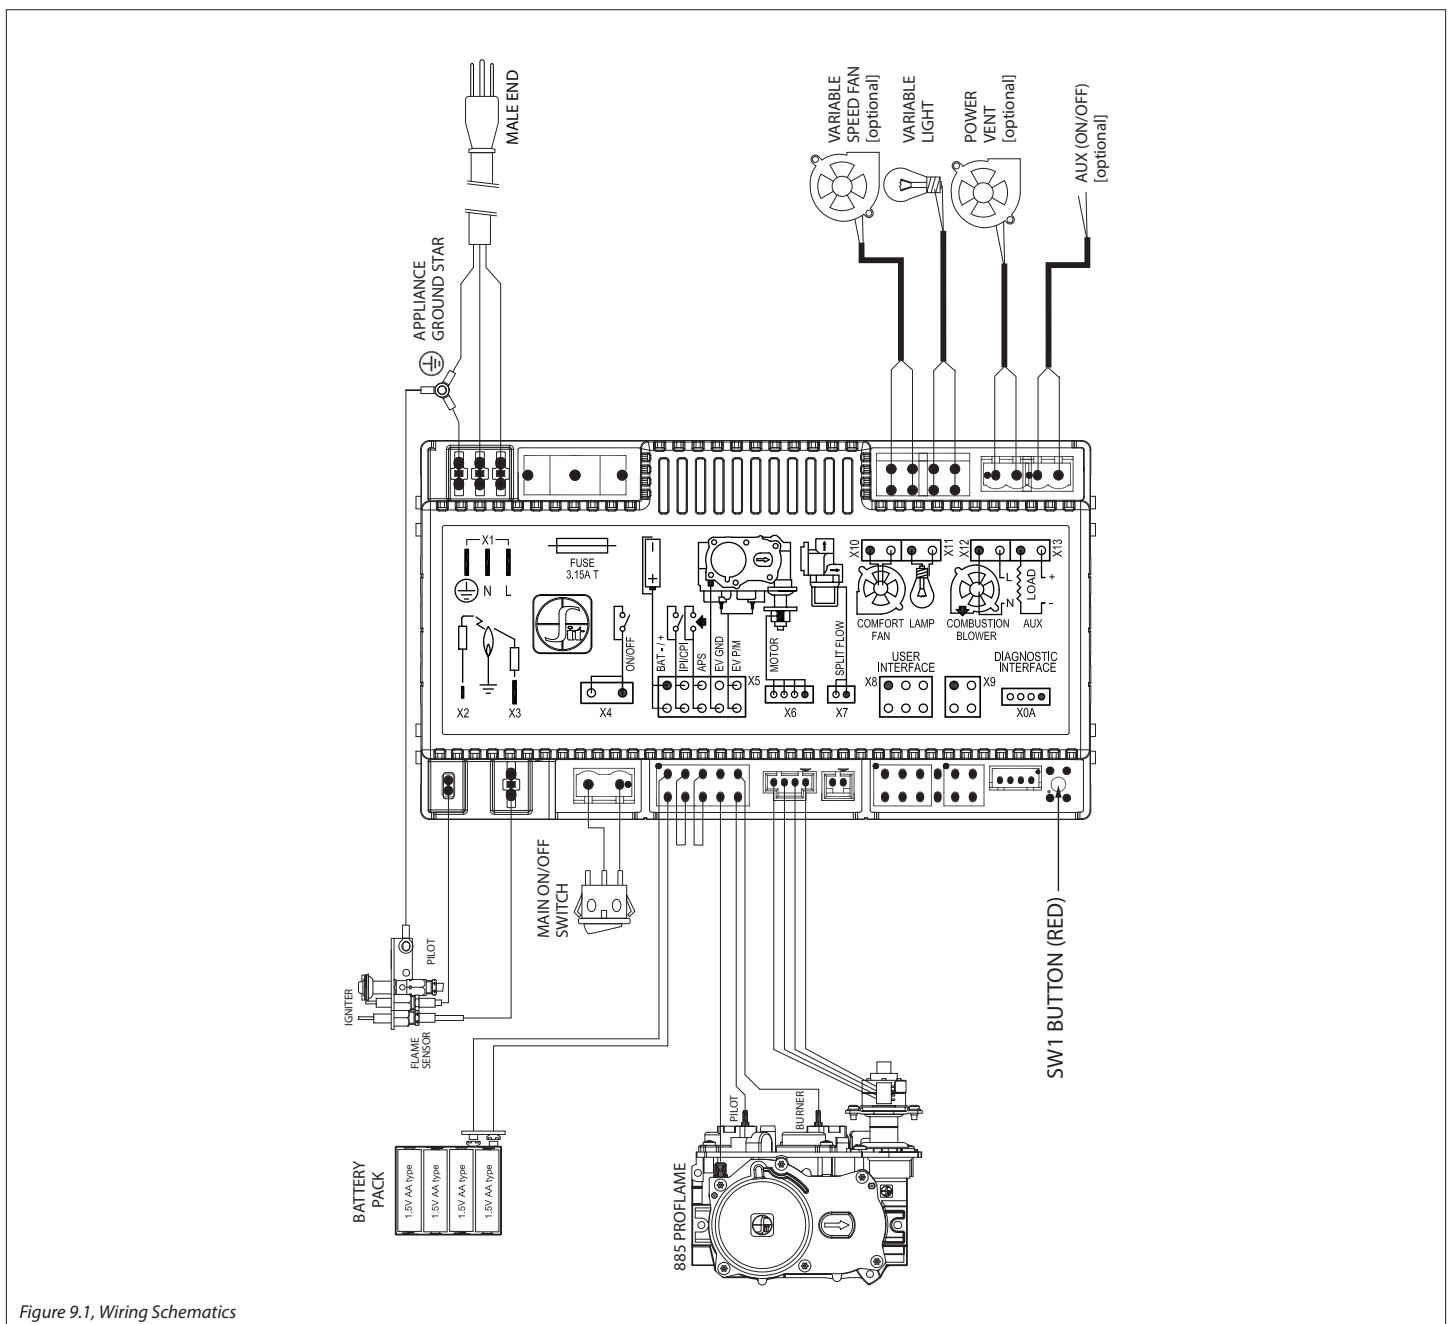

Figure 9.1, Wiring Schematics
9. Plug the fan cord into the receptacle on the IFC control module. See Section Figure 9.1, Wiring Schematics on page 44.